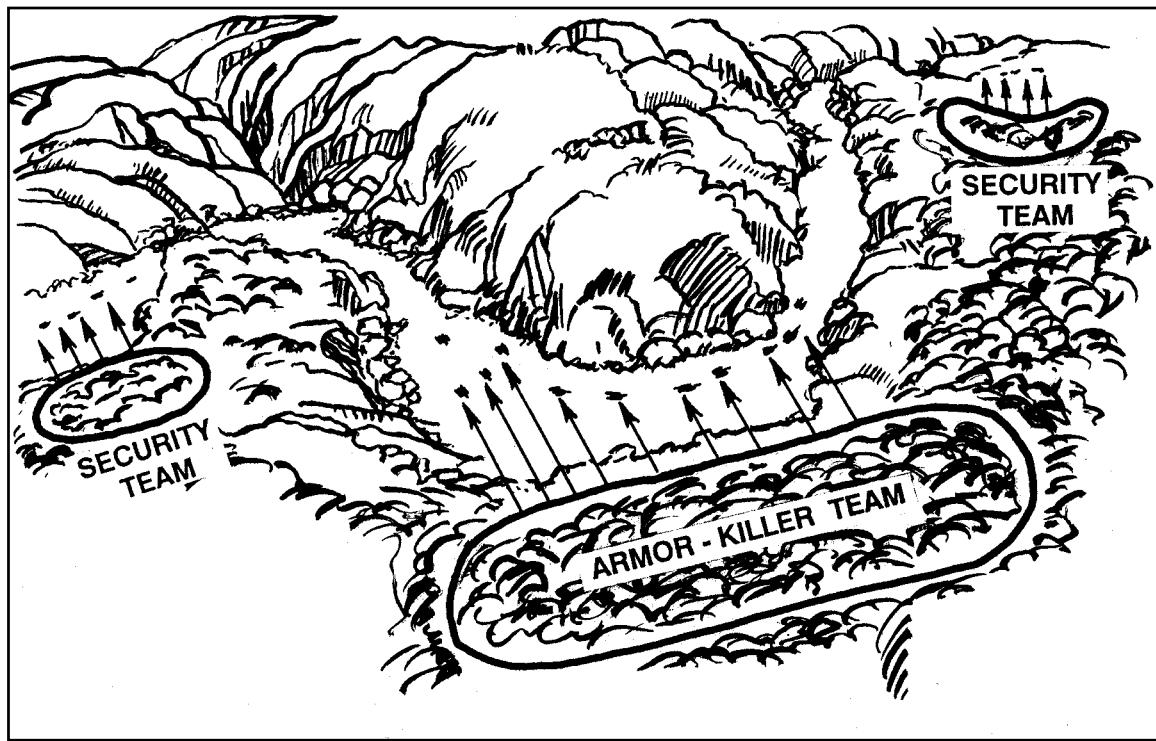

Figure 6-9. Antiarmor ambushes.
(1) *Ambushes (Antiarmor).* The commander can employ armor-killer teams either during limited visibility or when cover, concealment, and withdrawal routes are available. The key to ambushing armored or other vehicles is to choose terrain that restricts their maneuverability and fields of fire, but that allows friendly forces to engage the vehicles from the flank and rear. Soldiers can emplace antipersonnel mines before the ambush so that dismounting enemy soldiers deploy into them. Though light antiarmor weapons can be used independently, they are normally used in support of designated organic antiarmor weapons such as the Dragon. Volley firing light antiarmor weapons increases the probability of a quick kill (Figure 6-9). Security teams stop the enemy from escaping.